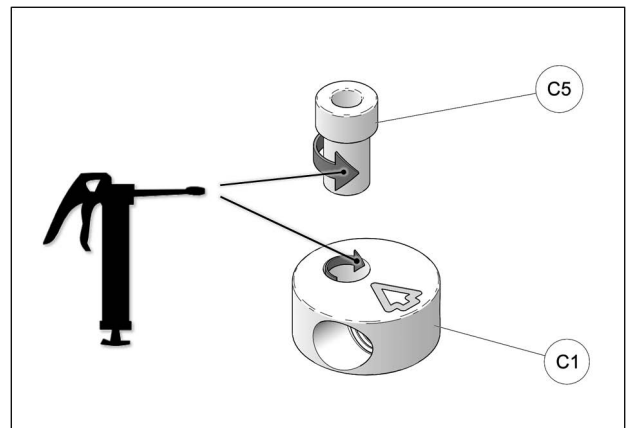

Fig. 24
14. Apply grease evenly all around step spacer bushing (C5) and in hole of aluminum disk (C1) when assembling these parts together. See Fig. 24